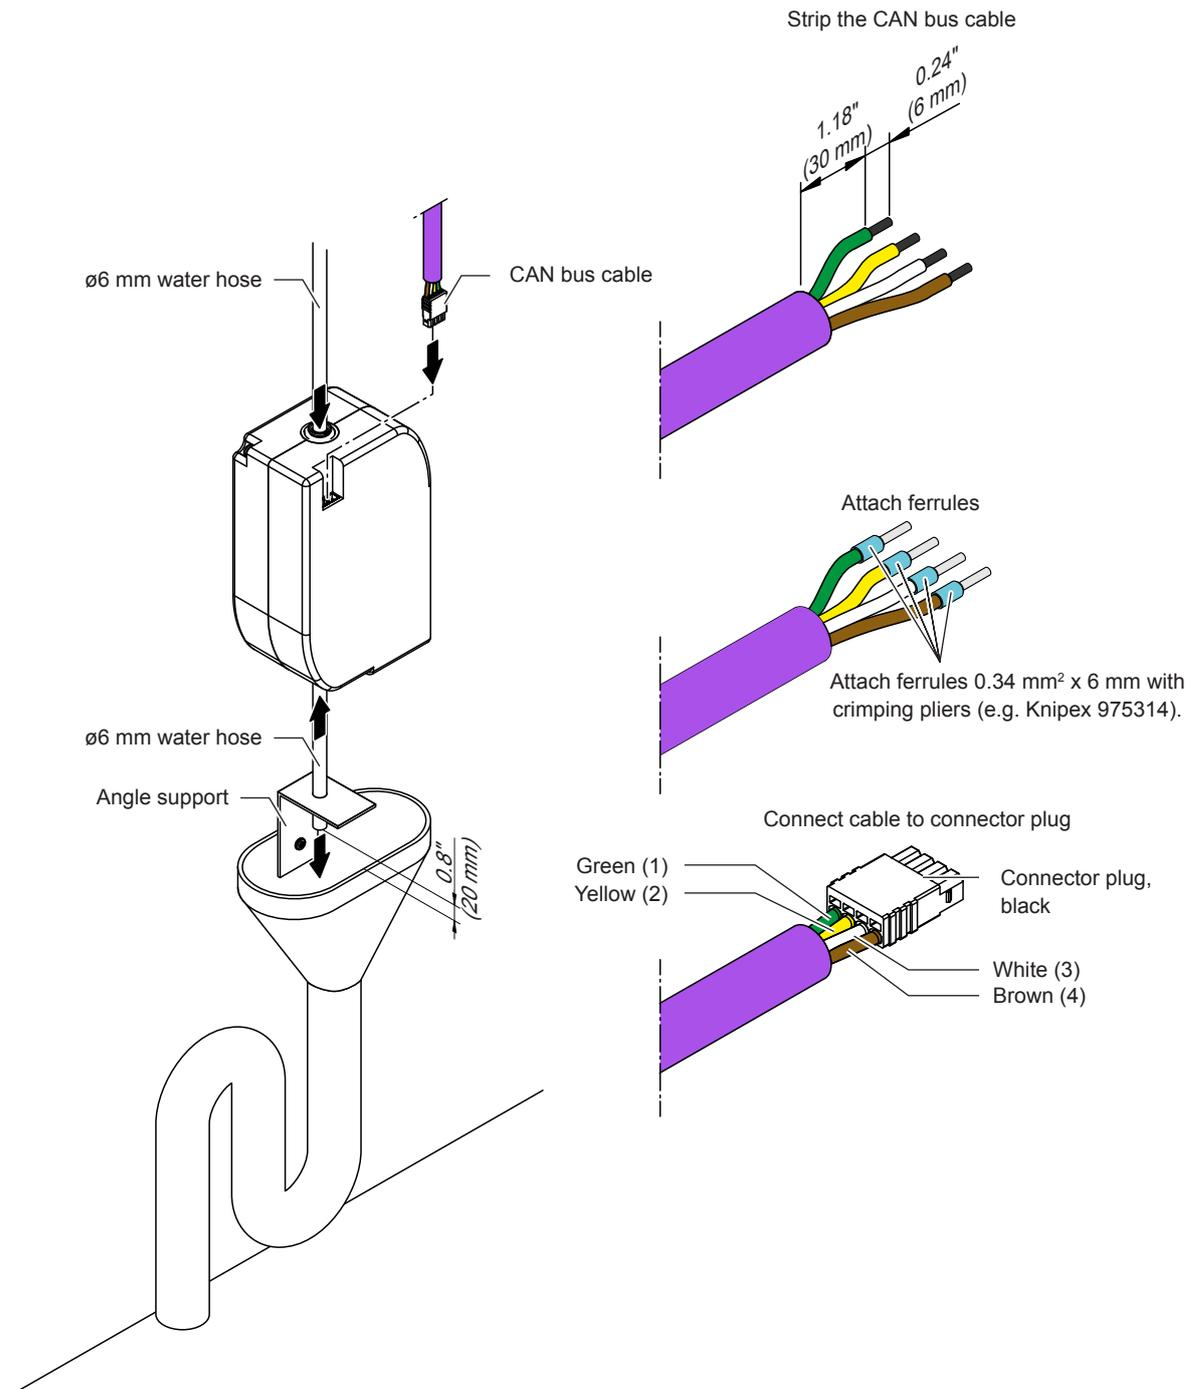

Fig. 36: Connect external drain module
1. Connect hoses according to Fig. 36 appropriately.
2. Prepare the CAN bus cable, attach the plug to the CAN bus cable (see Fig. 36) and connect the CAN bus cable to the drain module.